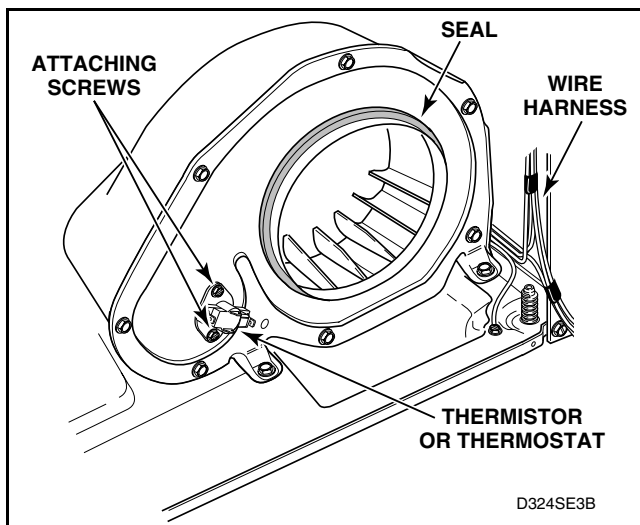

Figure 26
- Disconnect wires and remove thermostat or thermistor attaching screws. Refer to *Figure 26*.
IMPORTANT: When reassembling, be sure seal on exhaust fan cover makes airtight seal on flange of duct. Refer to *Figure 26*. If the seal is installed improperly, the airflow through the exhaust system will be restricted which can adversely affect dryer performance.